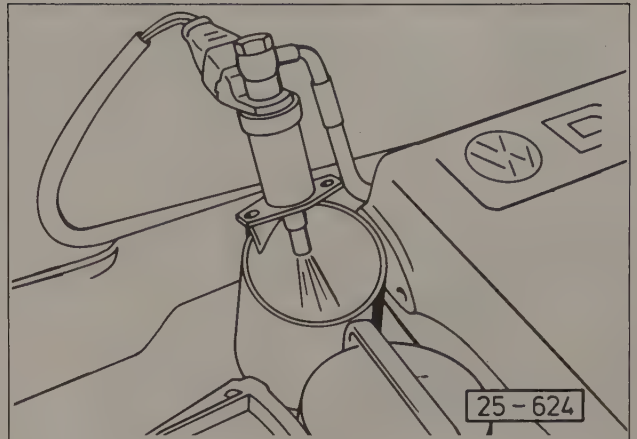

Fig. 6-18. Cold-start valve being checked by observing as fuel sprays into transparent container. (16-valve shown, other CIS-E engines are similar).
5. Wipe dry the nozzle of the cold start valve. Point the valve into a transparent container, and have a helper actuate the starter. See Fig. 6-18.